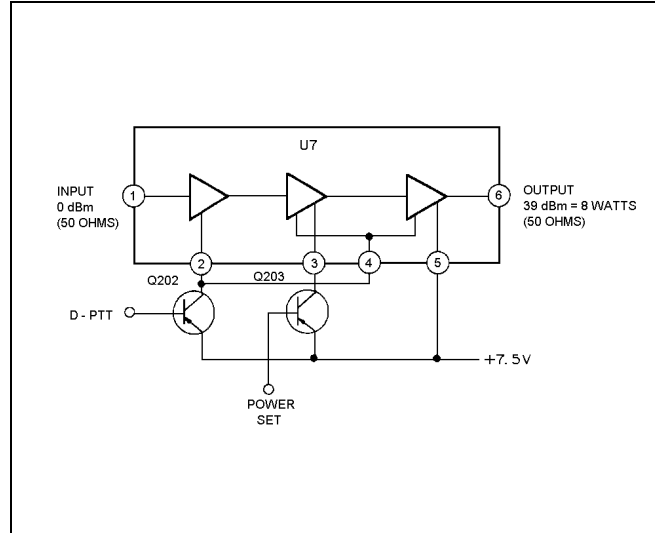

Figure 9 - Power Amplifier (PA) VHF
Power Amplifier (PA) U7 is a three-stage, wideband amplifier module with an input and an output impedance of 50 ohms (Figure 9). The second stage of the PA module has the dc power supplied by power set transistor Q203. The rf power output from amplifier is connected to pin 1 of the PA module where it is applied to the input of the rf power amplifier stages. The RF power amplifier stages amplify the input from the Tx-Amp module to a typical power output level of eight watts at pin 6. The output at pin 6 is connected through the LPF/DC/SW module. A minimum power level of six watts is on the output output of the LPF/DC/SW module.